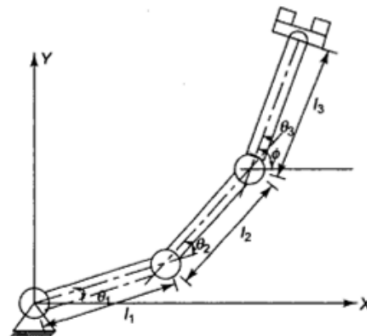

Fig. 2.3 Three DOF 2-D manipulator
- The position and orientation of the end-effector shown in Figure 2.3 in world space.
- The position of the end-effector shown in Figure 2.3 in world space can be determined from the joint angles and link parameters by the following equations,
- The orientation of the end-effector shown in Figure 2.3 in world space can be determined from the joint angles and link parameters by the following equations,